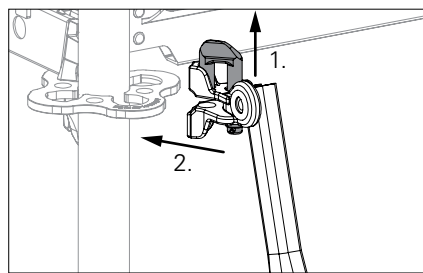

Fig. A1.07a
3. Mount Node Brace UBK (12) at top to Standard UVR (6). (Fig. A1.07a + A1.07b)
4. Mount Node Brace UBK (12) below on the Base Standard UVB (2).